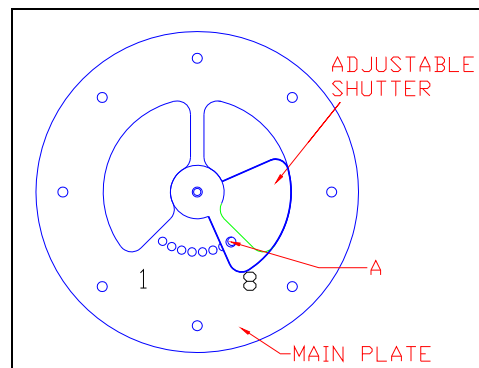

Figure 11: Restriction Plate Adjustments
The restriction plate is used to control the draft of the heater. Controlling the draft also changes the aesthetics of the flame. The restriction plate has eight settings, one (1) being the lowest and eight (8) being the highest. For a fast moving flame with lots of action, use a low setting. For a slow, lazy flame, a high setting should be used. See Figure 11 for instructions on how to adjust the restriction plate settings.
(Refer to Figure 11 for proper adjustment plate index location) 'A' in Figure 11 shows the locating screw that determines the position of the plate.